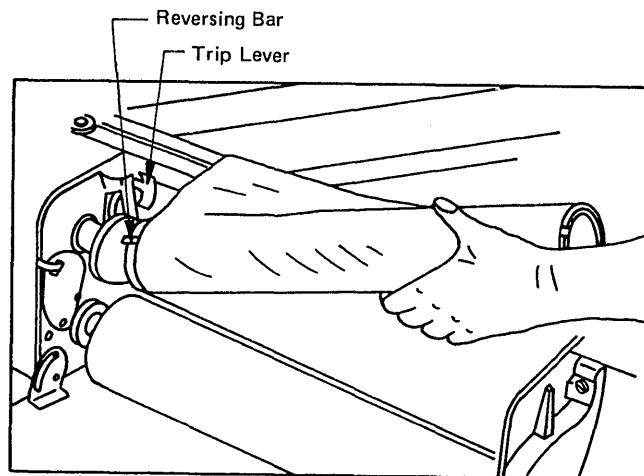

Figure 36. Installing the Ribbon
5. Install the new ribbon in reverse order, bottom spool first. When positioning the top spool, make sure that the reversing bar of the ribbon (Figure 36) is not on the far side of the trip lever, otherwise the ribbon will be severely damaged when the ribbon drive starts.
6. When the ribbon has been installed (Figure 36), tighten it by hand to remove slack from the printing area. (Press the STOP key to run the ribbon drive).